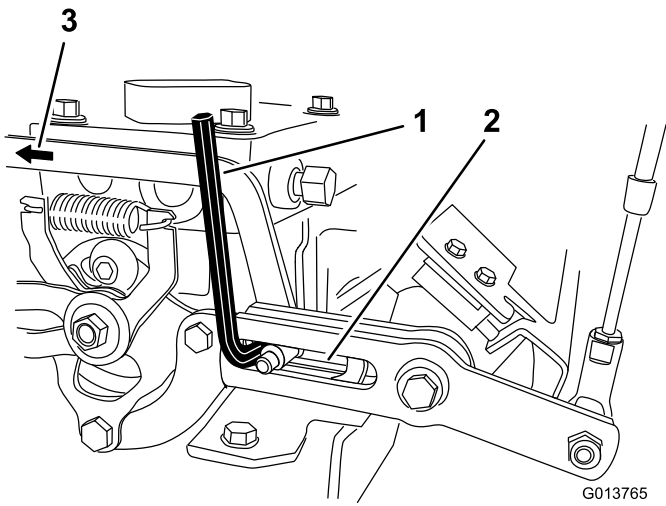
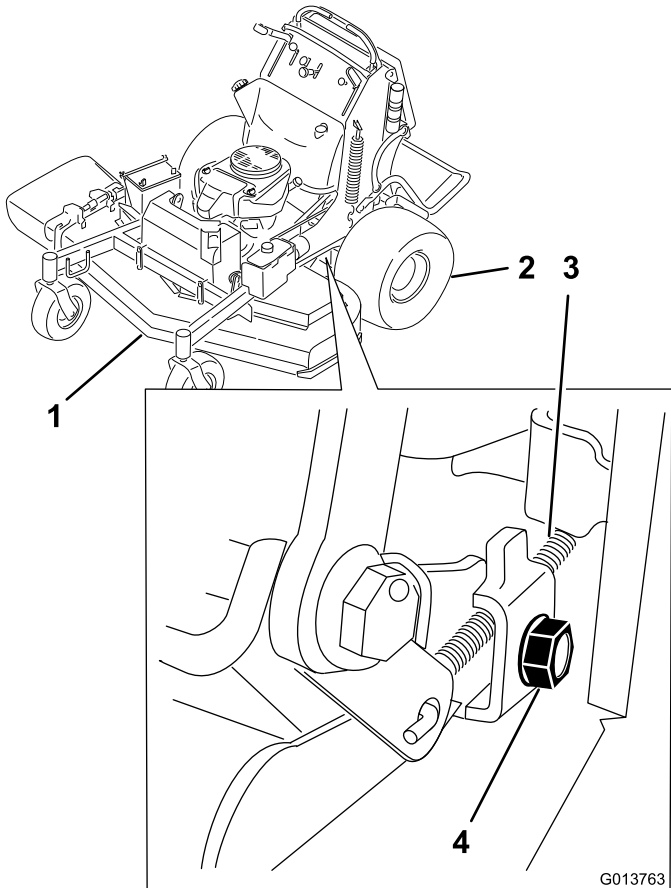

Figure 9
Figure 10
2. Ensure the cable clamp securing the speed control cable jacket to the shifter bracket is loose (Figure 10).
5. In front of the left hand speed control linkage rollers, insert a 7/32nd inch allen wrench into the slots of the control fork and control arm (Figure 9).
6. Push the speed control linkage forward, and tighten the clamp securing the speed control cable jacket to the shifter bracket (Figure 9 and Figure 10).